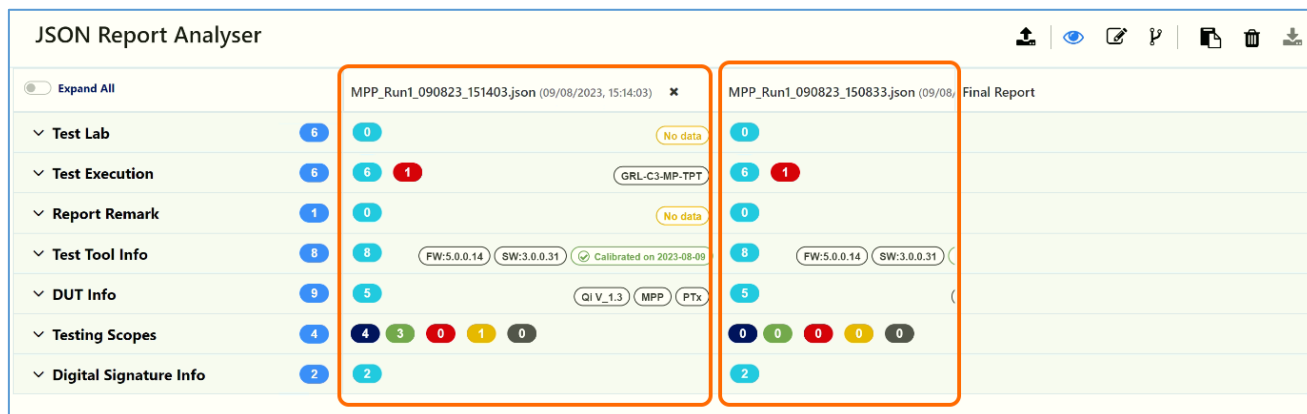

FIGURE 8.113: JSON FILES LOADED ON SCREEN EXAMPLE
3. After clicking on the **Upload** button, the selected JSON files will be loaded on to the *JSON Report Analyzer* screen as shown in the example in Figure 8.113 below.